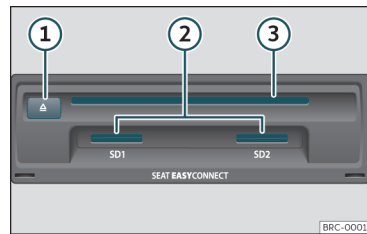

Fig. 156 Slots for data storage devices in the glove compartment.
- Insert a CD or DVD into the slot >>> **Fig. 156** ③ with the printed side facing upwards, until the equipment inserts it automatically.
Insert the compatible memory card, with the cut corner first and the contacts facing down, into slot »» **Fig. 156** (2), until it clicks into place.